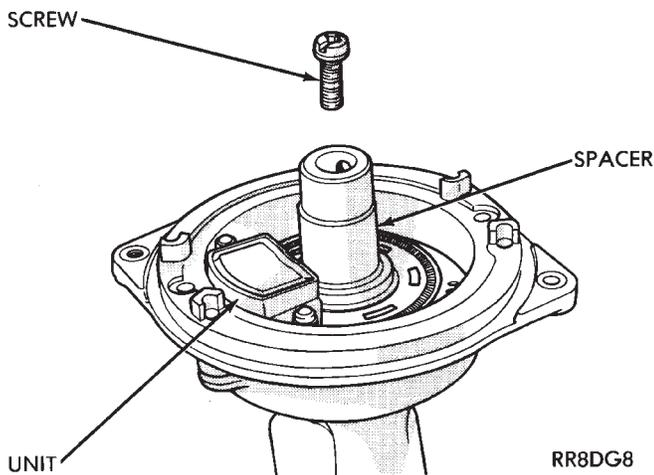

Fig. 27 Disk Assembly Screw
(6) Remove disk assembly screw (Fig. 27).